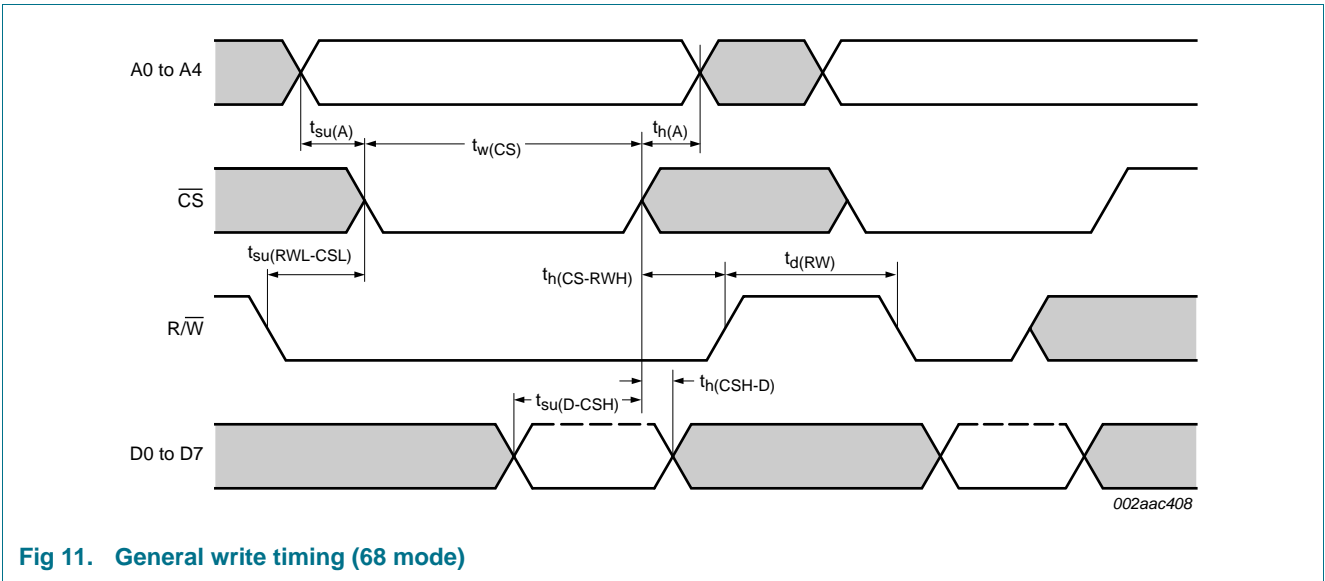

Fig 11. General write timing (68 mode)
- (1) $\overline{\text{CS}}$ timing during a write cycle. See Figure 11.